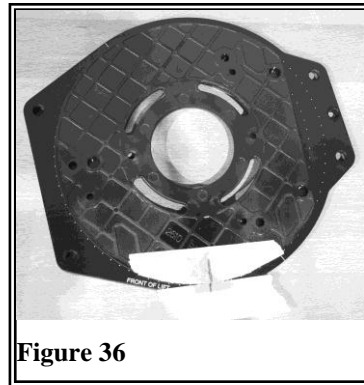

Figure 36
- Centre the router sub base on the blank plate, aligning the two marks made in step 1. (Figure 36) and centre the sub base to the engraved rings on the blank plate.